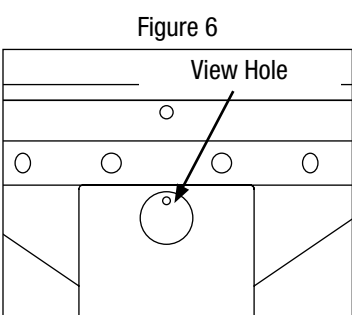

Figure 6
3. Open viewing hole by sliding cover to either side. (Figure 6)